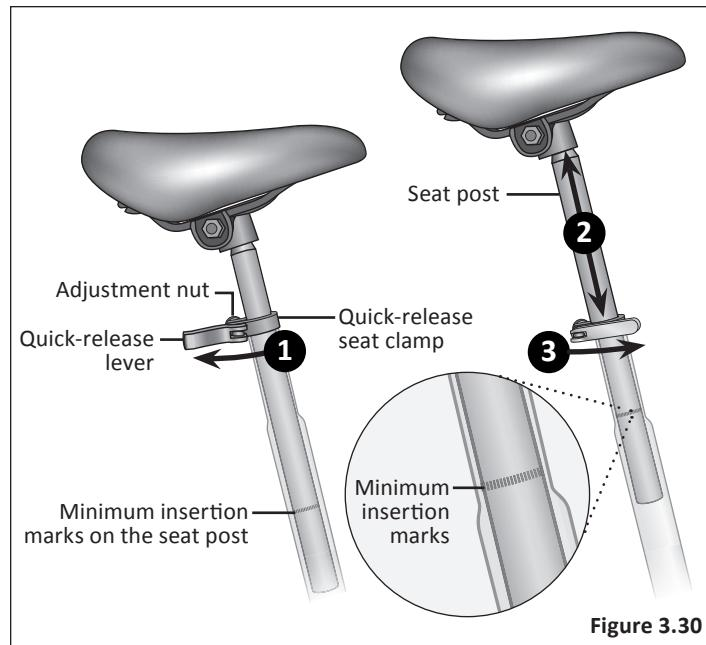

Figure 3.30
**1** Unlock the quick-release lever and insert the seat post into the seat tube. **Figure 3.30**